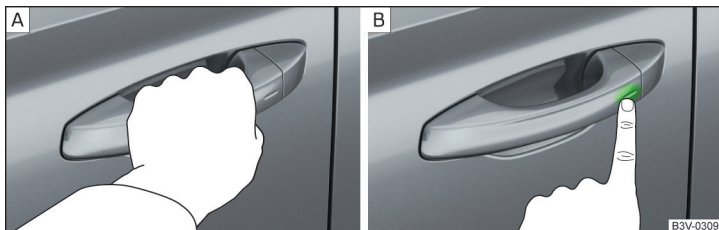

Fig. 32 Vehicle unlocking / vehicle locking
- > Grip the door handle to **unlock** » Fig. 32 -  the vehicle.
- > Touch the sensor on the door handle with your finger to **lock** » Fig. 32 -  the vehicle.